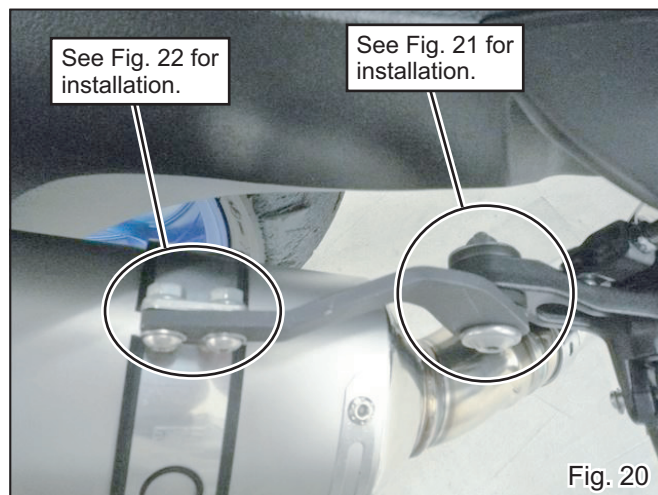

Fig. 20
- 18) Mount Silencer Bracket to stock silencer bracket with stock bolt, washer and nut removed at step 2). Tighten bolt by hand only at this stage. (See Fig. 20 & 21)
- 19) Place Silencer Band Rubber inside Silencer Band, and put the Silencer Band on Silencer Assy. Then, mount Silencer Bracket onto the Silencer Band with 2 of each Button Bolt M6x15, Washer M6x13 and Flange Nut M6 supplied in the Slip-On R-77S. Tighten bolts by hand only at this stage. (See Fig. 20 & 22)